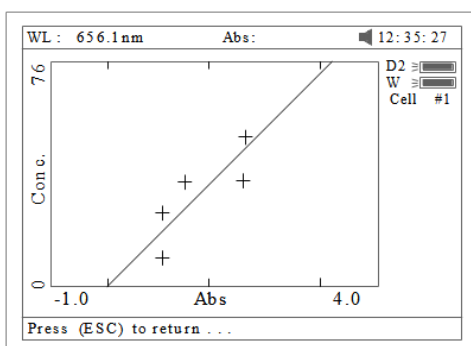
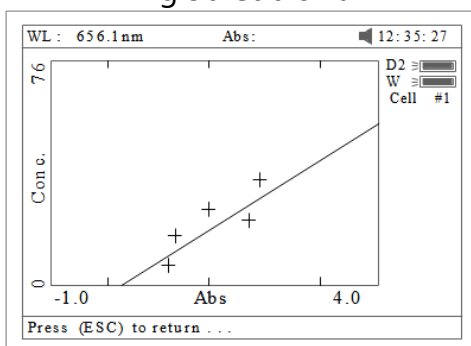

Fig 34 Linear through zero fit
Fig 37 Linear fit
3.3.4 Press 【F4】 to draw the curve. You can get a different curve by pressing 【F1】 to select a different fitting method. (See Fig 34-Fig37.) For linear fits, "r" represent fitting coefficient of linear regression .r=1 is best fitting.usually "r" is very close to 1.